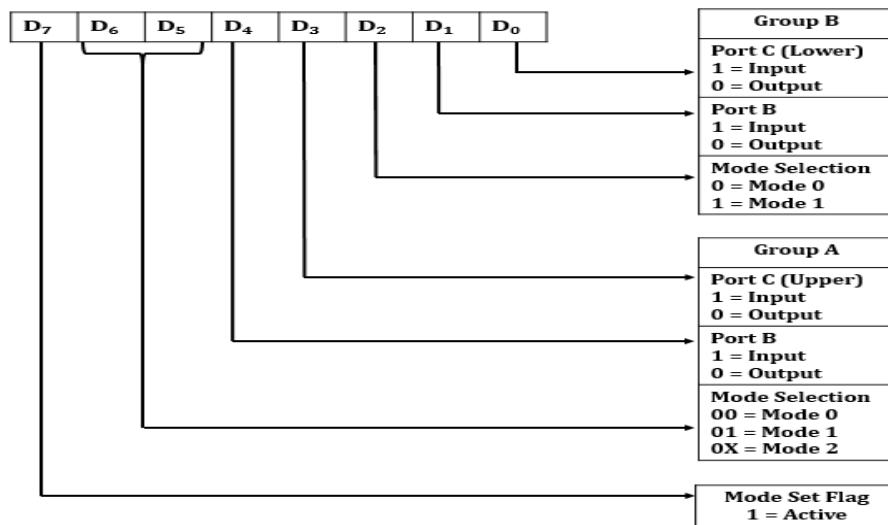

Figure 3.5: Bit pattern of control word in 8255 I/O Mode.
3. Figure 3.5 shows the bit pattern of control word in 8255 I/O Mode.